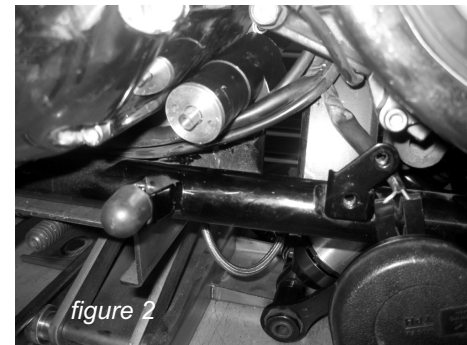

figure 2
- As you mount the shock, feed the Remote Adjustable Pre-Load adjuster through the opening behind where the horn was located on the left side of the bike - see figures 2 and 3. Do not loosen or attempt to rotate the line between the shock and the adjuster.